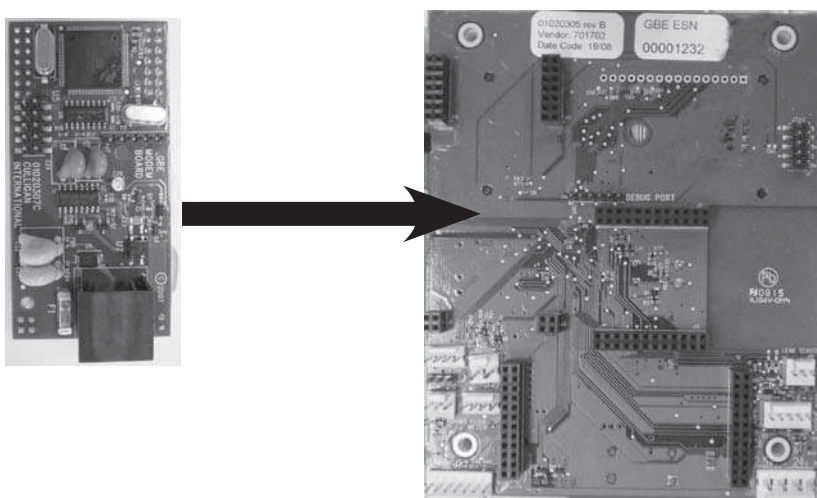
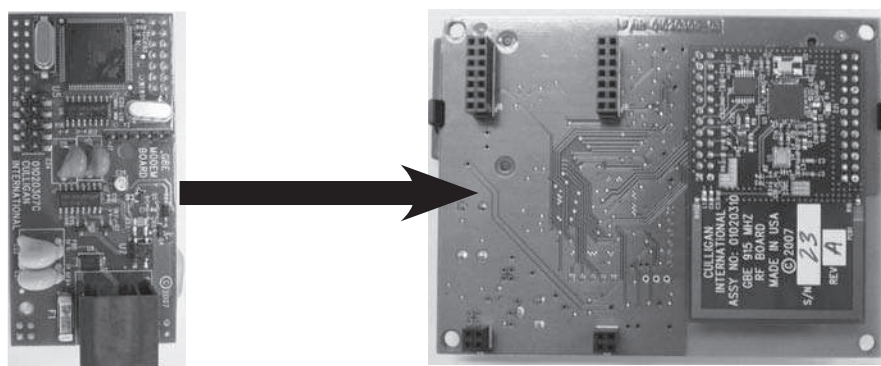

Figure 47. Back of GBE board.
Figure 48. Back of remote board.
1. Unplug the wireless remote before installing the modem into the back of the GBE board or the back of the remote. See Figure 47 and Figure 48.
Open the controller cover and locate the modem connection on the back of the board (see Figure 47). Insert line modem board (part number 01020747) into the socket on the back of the board. Make sure that all of the pins in all four connectors are aligned and make sure the modem is fully seated into all of the sockets.
Open the remote monitor housing by removing the two screws and squeezing the sides of the monitor housing slightly. Insert the modem board (P/N 01020747) into the socket on the back of the remote board (see Figure 48). Make sure that all of the pins in all four connectors are aligned and make sure the modem is fully seated into all of the sockets. Snap the two halves of the remote housing back together using light finger pressure and insert the two screws.